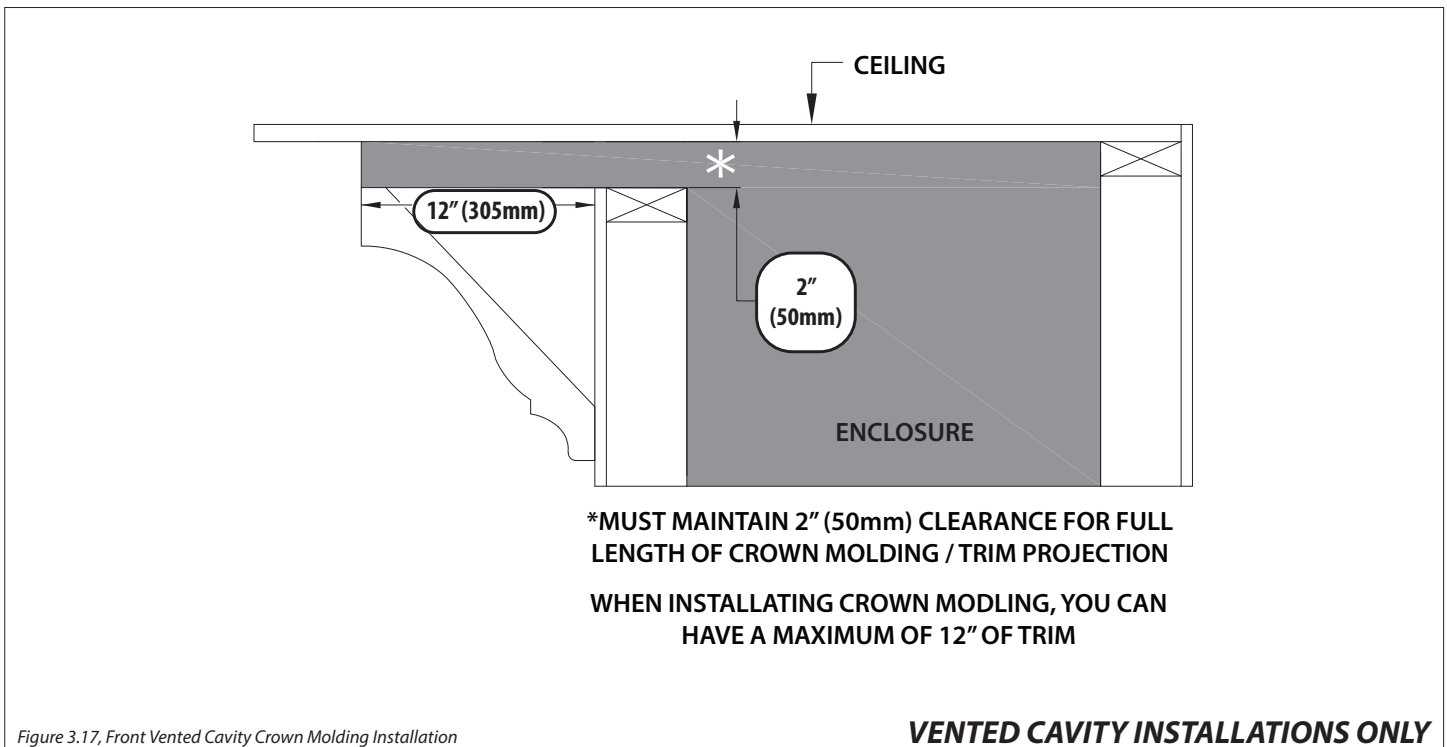

Figure 3.17, Front Vented Cavity Crown Molding Installation
- Figure 3.17 shows the installation of crown molding or similar trim work that goes up to the edge of the air discharge opening. 12" (305mm) is the maximum length of the molding or trim projection and you must maintain 2" (50mm) clearance for the full length of crown molding/trim projection. This molding or trim cannot decrease the minimum opening requirement.